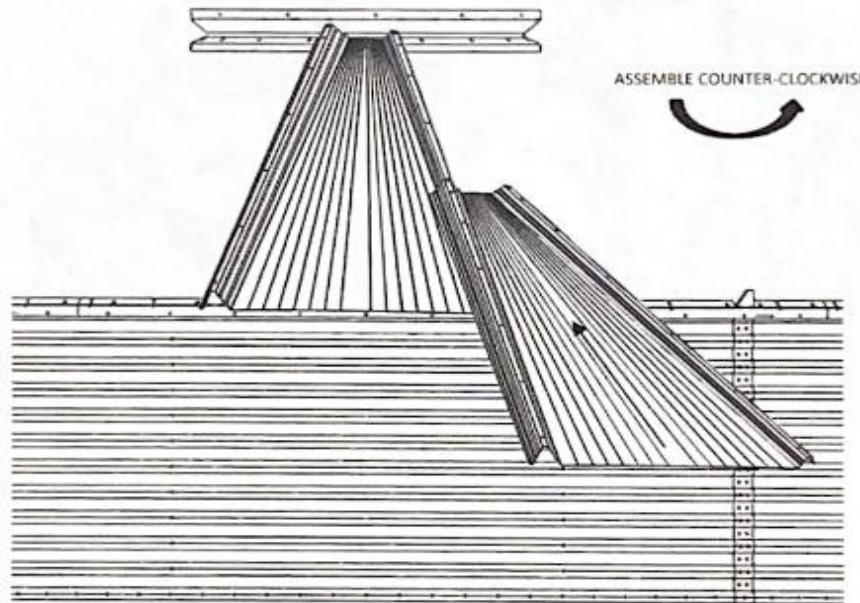

Figure 5 – Assemble roof counter-clockwise
Slide next roof panel into place overlapping the ribs. Use care to lay sheet flat when sliding panel up the roof as gouging may occur to roof sheet already in place. Continue to place two (2) or three (3) panels in each section, then move across and do the same. Fasten to peak ring with 5/16" x1" bolts. Fasten to continuous eave clip using 5/16" x1" bolts and 5/16" flange nuts. To install last panel in each section slide panel into place by lifting starter sheet. Add bent roof ring brackets at appropriate location with opening towards peak ring. See chart in Roof Ring Component section for the appropriate location of the bent roof ring mounting brackets. Assemble roof ladder rungs on designated roof sheet. See Figure 5.